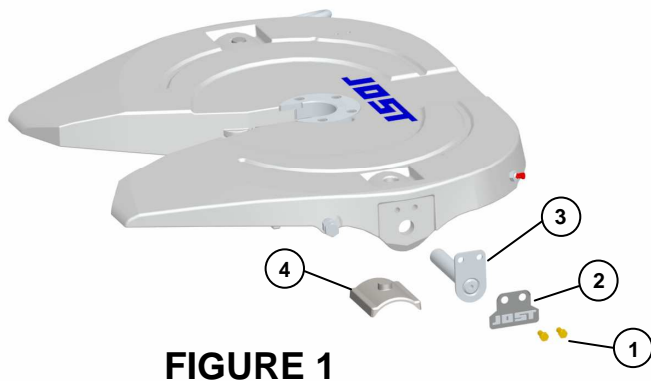
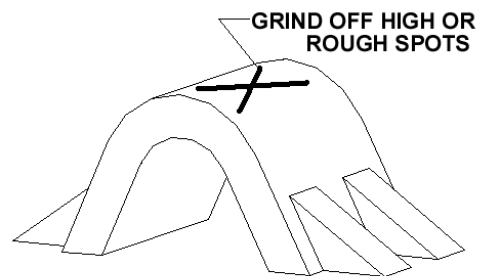

FIGURE 1
FIGURE 2
1. Remove the hex head cap screws (figure 1 item 1) and locking tabs (item 2).
2. Remove the bracket pins (item 3).
3. Inspect the top of the bracket cap and grind off any high or rough spots (see figure 2).